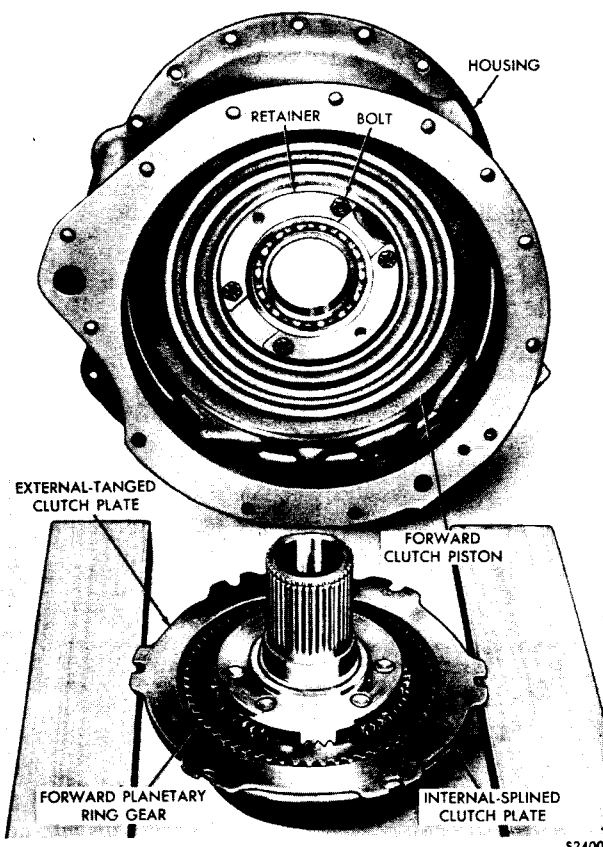

Fig. V-24. Forward planetary carrier assembly and related components
(2) Lift the transmission housing off the forward planetary carrier and other components removed in (1), above, and in fig. V-24.
(3) Remove two clutch plates and the forward planetary ring gear from the carrier assembly (fig. V-24).
(4) Remove the snap ring 36 (A, fold-out 9) and reverse planetary ring gear 45 from the forward planetary carrier assembly 37. Refer to sect. VI, para 25 for rebuild of the carrier assembly.
(5) Remove the forward clutch piston assembly from the transmission housing (fig. V-24). Refer to sect. VI, para 21 for rebuild of the piston assembly, and to para 26 for rebuild of the transmission housing assembly.